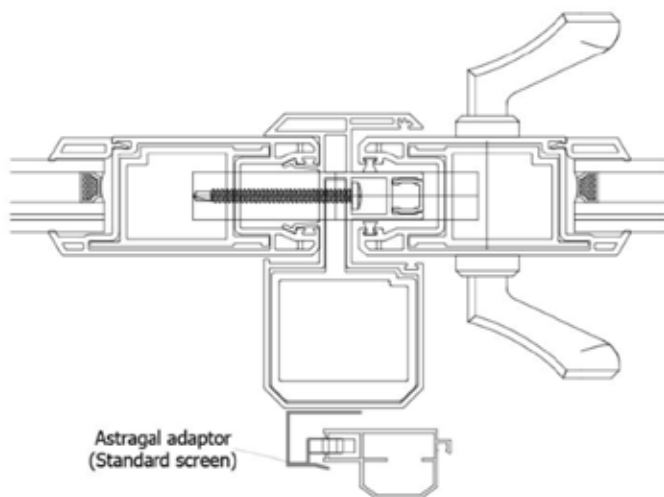

Figure 29a
2. **Pre-drill** 11/64" (0.171") pilot holes so that the astragal adapter (Item 34) attaches to the astragal base on the glass panel. Use five screws (Item 46) to install the adaptor. Once installed, latch keepers may be installed and adjusted to make proper contact with the latch P-cam. Caulk any seams where the astragal or astragal adapter meets the frame head and sill (Figures 29a and 29b).